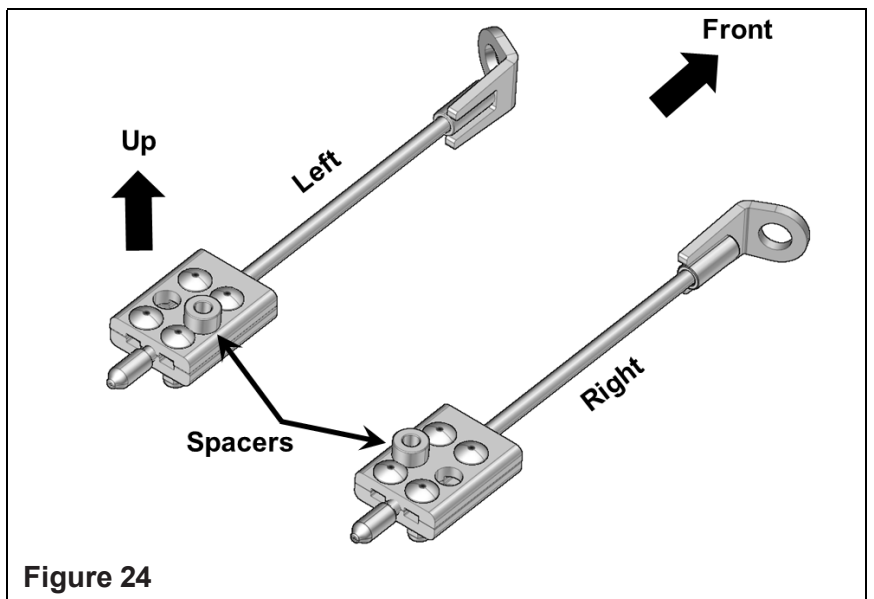

Figure 24
12. Insert step spacers in the steering limiter assemblies to get left and right steering limiters. Figure 24.